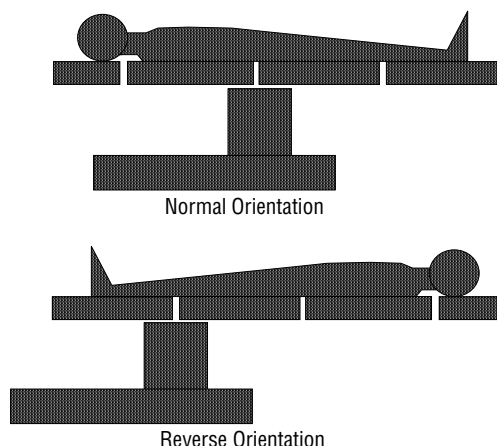

Figure 3-8. Patient Orientation
3. Press the ORIENT PATIENT function touch pad then, **within six seconds**, press the actuate touch pad for the desired orientation (as shown by illustration on touch pad, see Figure 3-8).